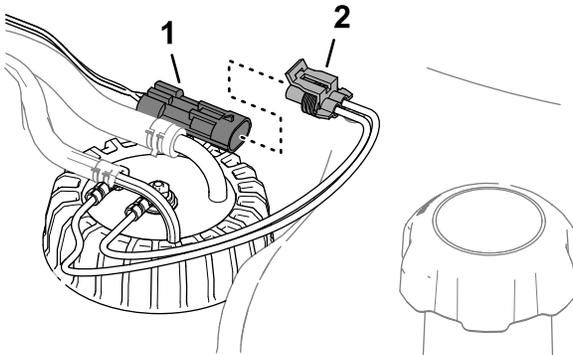

Figure 87
3. Remove the 2-socket connector of the fuel-sender harness from the 2-pin connector of the machine wire harness (Figure 87).